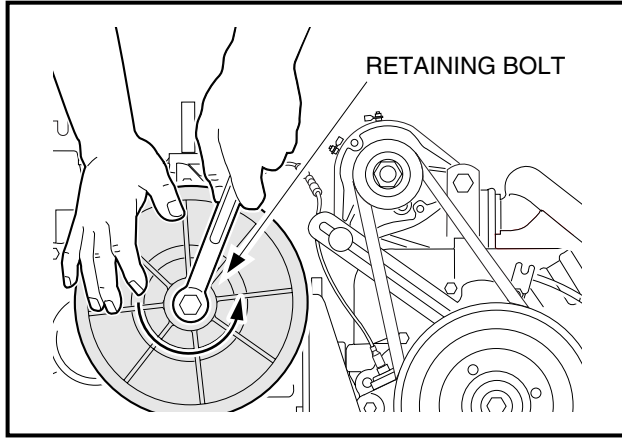

Figure 16-33 Driven Clutch
17. Remove the driven clutch retaining bolt and remove the driven clutch from the unitized transaxle (Figure 16-33, Page 16-15).